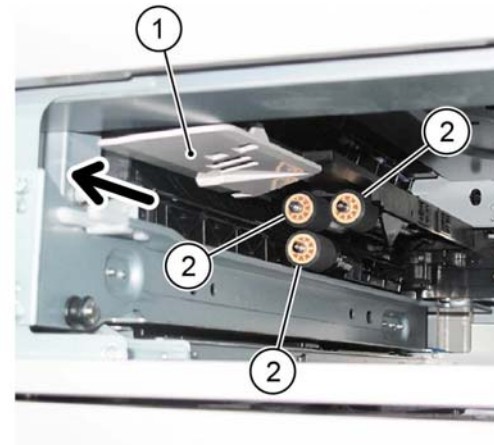

Figure 1 Roll removal
2. Remove the tray 1 feed, retard and nudger rolls, Figure 1:
- a. Slide the chute (1) forwards.
- b. Release the clip, then remove the tray 1 feed, retard and nudger rolls (2).